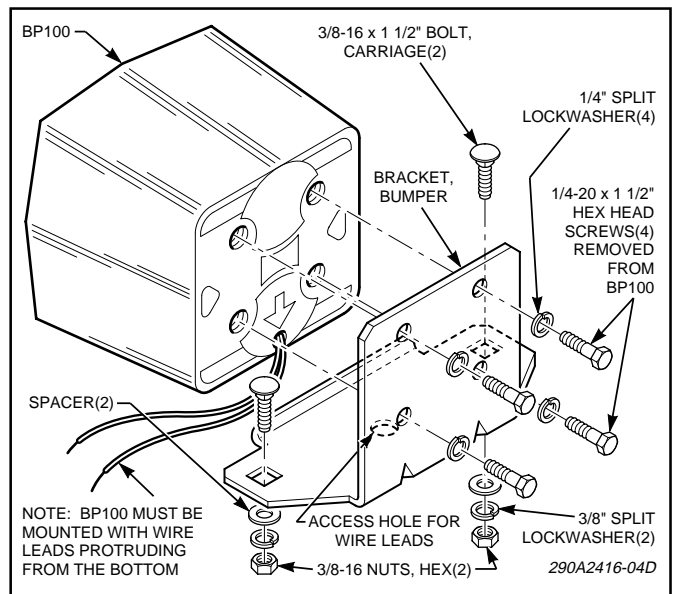

Figure 1.
2. See figure 1. Use the bracket as a template and scribe two or three (as applicable) drill position marks at the selected location.
4. Assemble the bracket to the speaker using four 1/4" split lockwashers and previously removed screws as shown in figure 1.
6. Place the assembled unit in position. Align the holes. Insert a 3/8-16 x 1-1/2" carriage bolt and a spacer into each of the square holes in the bracket and through the bumper. Secure with 3/8" lockwashers and 3/8-16 hex nuts as shown in figure 1. Ensure that all fasteners are properly tightened.